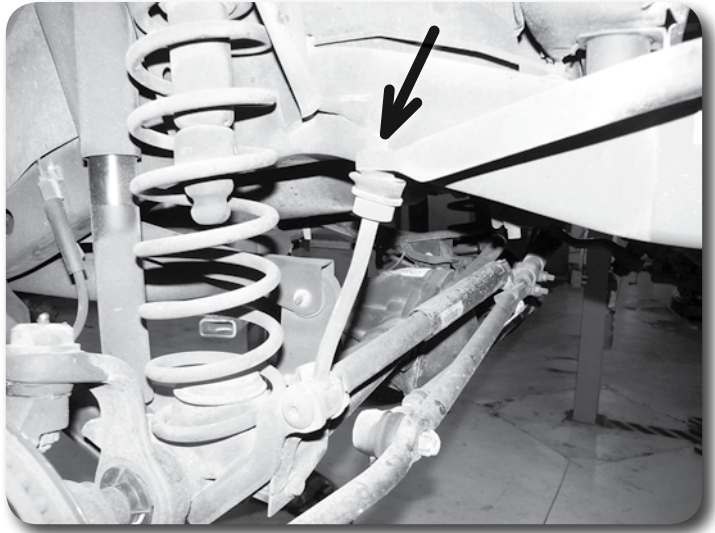

Figure 4
9. Remove the upper mounting nut from the sway bar links **Figure 4**. Disconnect the links from the sway bar with a pickle fork to release the tapered seat.